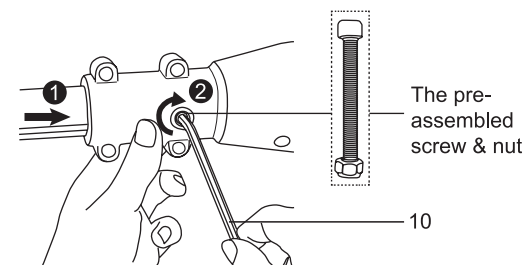

Fig. 3
4. Align the pole extension (22) to the motor unit and insert it all the way to the stop. Secure the connection with the screw and nut. (Fig. 3)